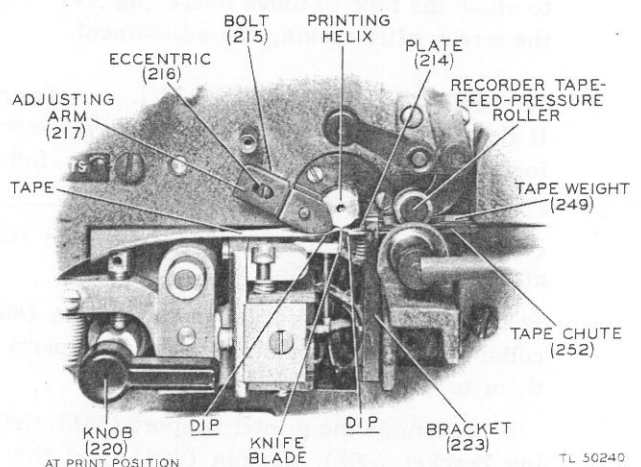

Figure 39—Recording-tape feed adjustment
- (1) Turn the printer detent knob to PRINT.
- (2) Loosen the setscrews in the square-head bolt (215), releasing the eccentric (216) that sets the adjusting arm (217). Turn the eccentric with a screwdriver until the tape-adjusting arm causes the recorder tape to dip slightly just after it passes over the printer knife blade (fig. 39).
(3) Check the position of the recording-tape chute. This chute passes between the pressure plate (214) and the two setscrews in the top of the tape-chute adjusting bracket (223). The chute should be as far to the left as is possible without the tape weight (249) being clamped in its place in the tape-chute. To move the chute to the left or right, loosen the clamp screw on the clamp (251) at the right end of the chute (inside tape-reel front cover). Be sure to tighten the clamp after making the adjustment.
(4) Adjust the two setscrews in the plate (214) at the top of the tape-chute adjusting bracket (223), so that the tape dips slightly just before passing over the printer knife blade (fig. 39).
(5) Start the equipment with the SEND-TALK-RECEIVE switch at SEND, and thread a test